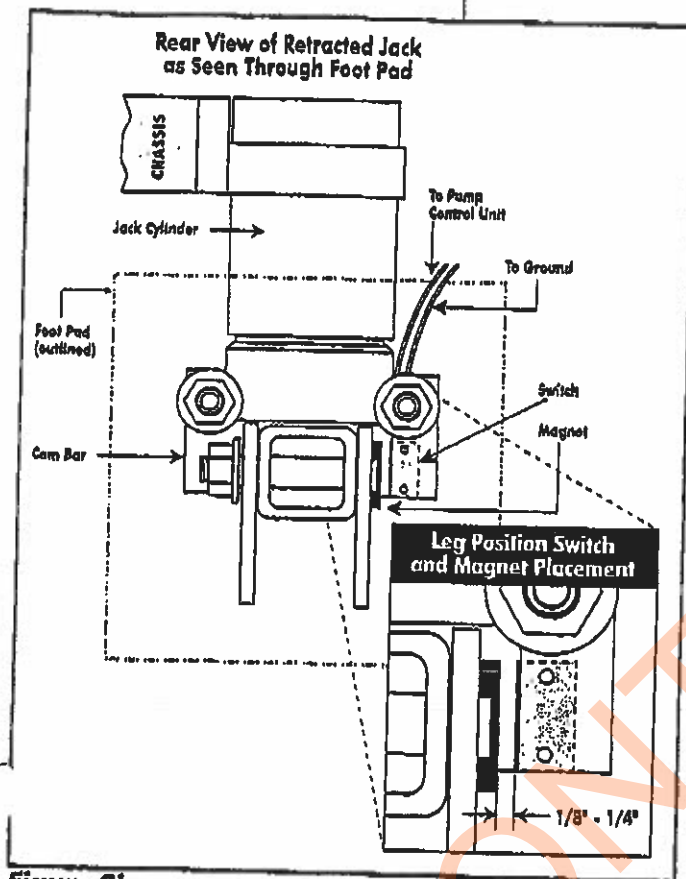

Figure 21
- a. Check switch and magnet locations. In the leg retracted condition these should be adjacent to each other with 1/8" to 1/4" gap. If required, adjust the position of the magnet to obtain proper operation. (Fig. 21)